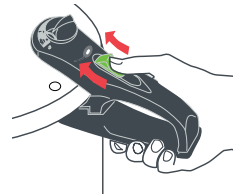

Fig.4
4. Once the pressure has been released and the pressure indicator has dropped, move the opening button forwards (Fig. 4). Hold the cooker with your left hand and slide the lid rightwards with your right hand. Even though all the pressure has been released, never open the cooker facing you, since there may be very hot steam inside. To avoid the risk of burns, let the condensed water drops fall into the cooker from the lid.